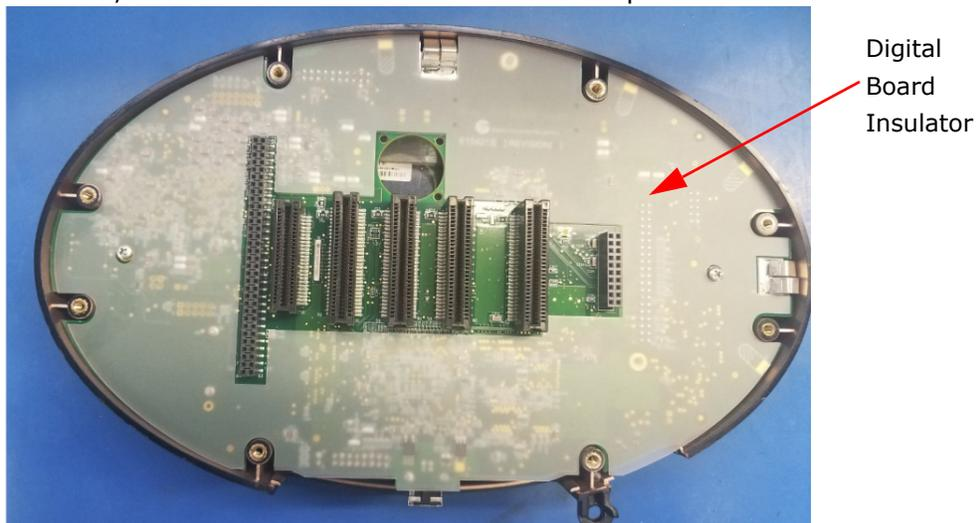

Figure 3.18: Replacing the Digital Board Insulator
16. Place the digital board insulator on the digital board as shown in Figure 3.18. The EMI shielding tabs of the digital board should be placed within the boundaries of the front panel shell, not on the outer surface of the front panel shell.